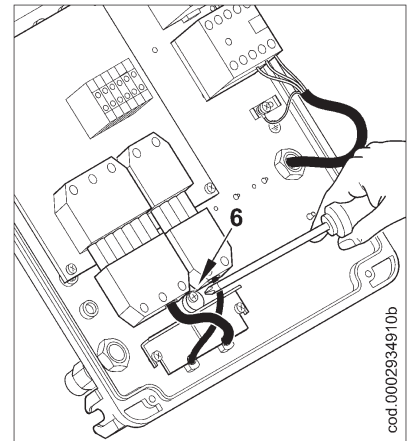

Fig. 3
- 3) Reposition the cable float as in figure 3. Turn the cam (6) so that the float exerts sufficient pressure on the two cables, then tighten the screws that fasten the cable float. Finally, connect the two 7 and 4-pole plugs.